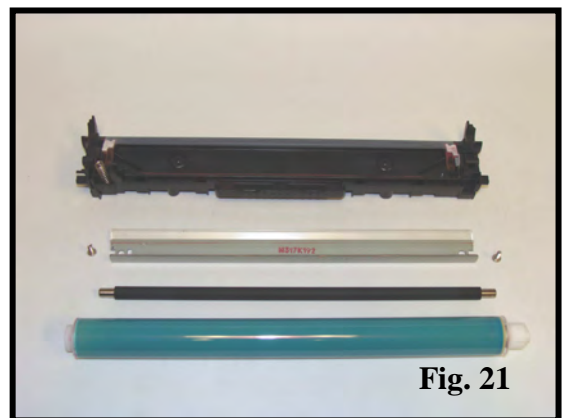

Fig. 21
21. Clean the PCR with a lint free cloth. Use your preferred lubricant on the wiper blade and drum. Reassemble the waste section in reverse order (Fig. 21).